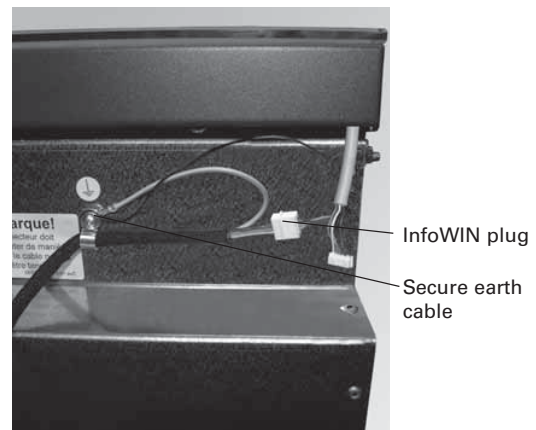

Fig. 23 Connect 4-pin InfoWIN plug, fit earth cable to reserve supply container
- Connect 4-pin plug of InfoWIN cable (5-pin plug remains free), secure earth cables for screw to reserve supply container – Fig. 23.